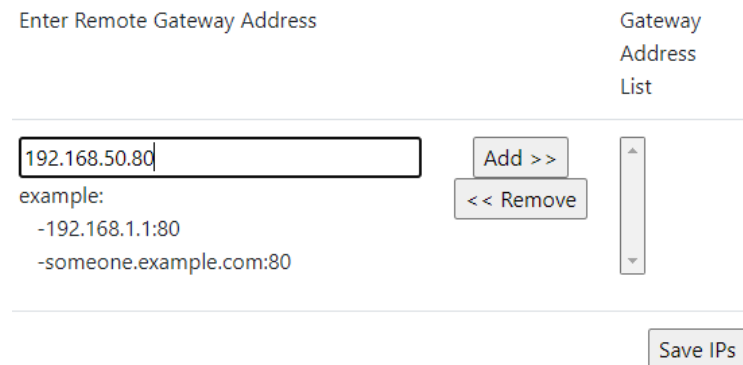

Figure 6-1: Example of entering the non-server IP address on the
2. Under “Blade Configuration” and “Enter Remote Gateway Address”, there is a spot to enter an IP Address followed by a Port number. This is shown in Figure 6-1. If there is no Port number entered, it will automatically be defaulted to Port 8676.